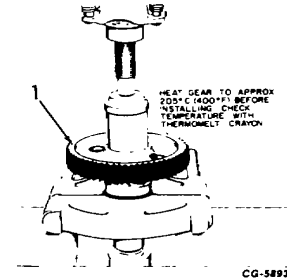

Figure 17. - Installing Camshaft Drive Gear
- e. Press the gear against the shoulder on the shaft with the timing mark pointed outward as shown in Fig. 17.
5. Install the camshaft so that the timing marks stamped on each gear as shown in (1, Fig. 17) are in line.